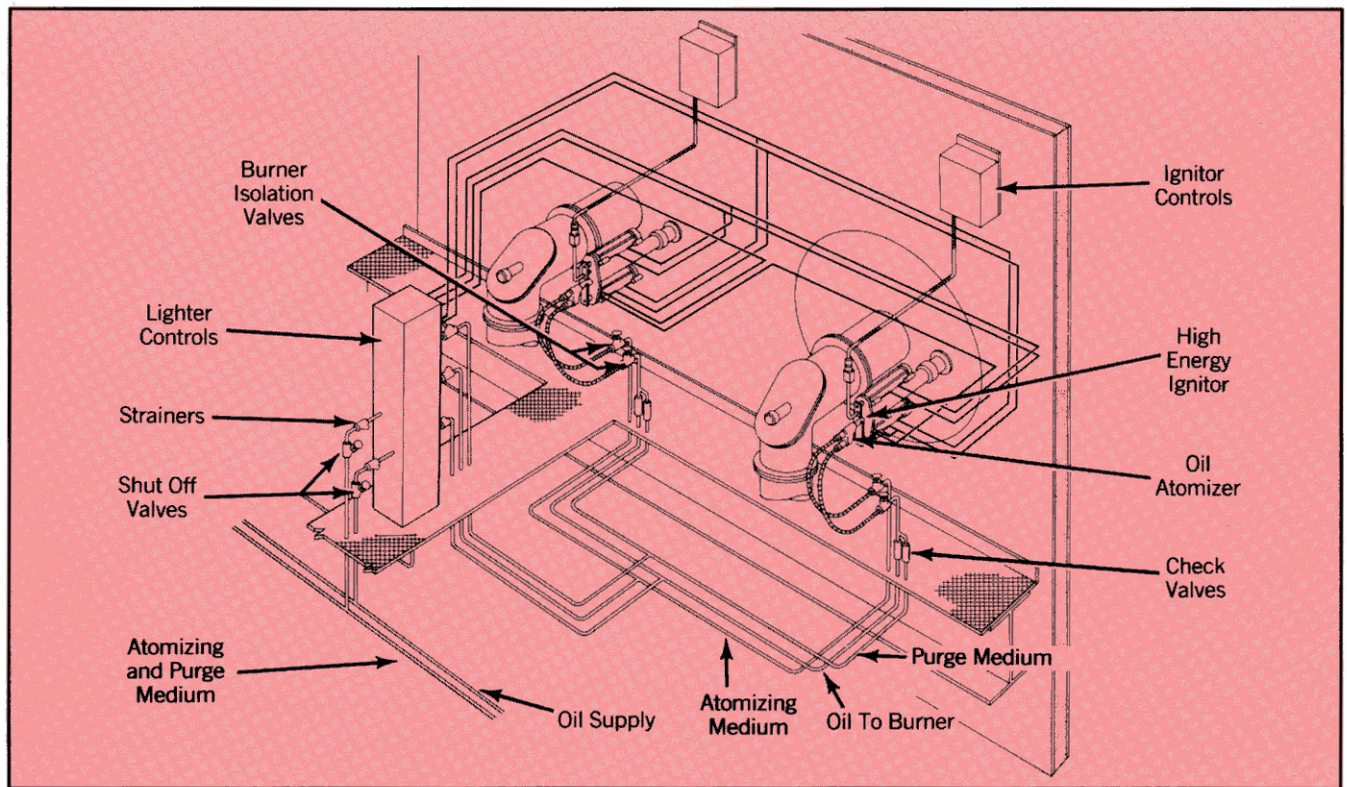

Figure 1 Typical lighter installation.
1. Minimize or eliminate contamination by installing filters or strainers in the supply piping or at the lighter package inlet. (Figure 1 shows strainers installed.)
Inadequate purging of atomizer fuel line.	Install check valves in oil piping at each atomizer (Figure 1) to prevent oil being forced into other atomizers during purge.
Oil piping is above the lighter. Oil drains into atomizer after purge.	Move oil piping below atomizers (Figure 1).